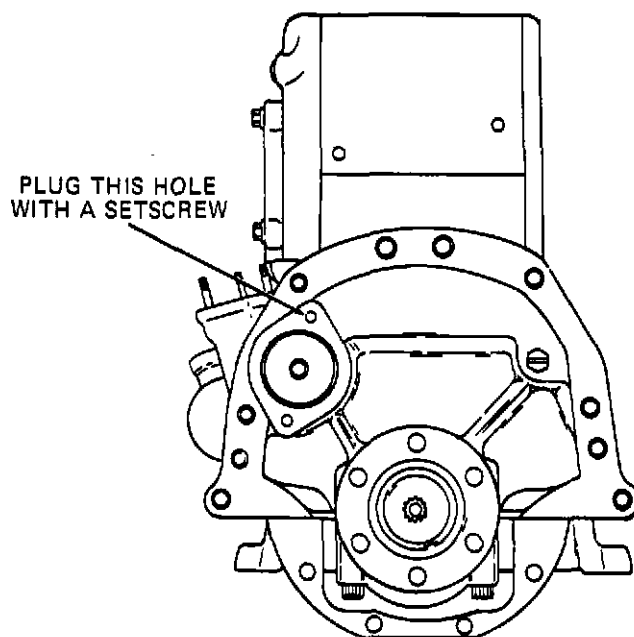

Figure 5-29. Rear Cam Thrust Plate Plug
4. Check the rear of the cylinder block to make sure that the top hole for the thrust plate attaching screw is plugged with a setscrew. See figure 5-29.